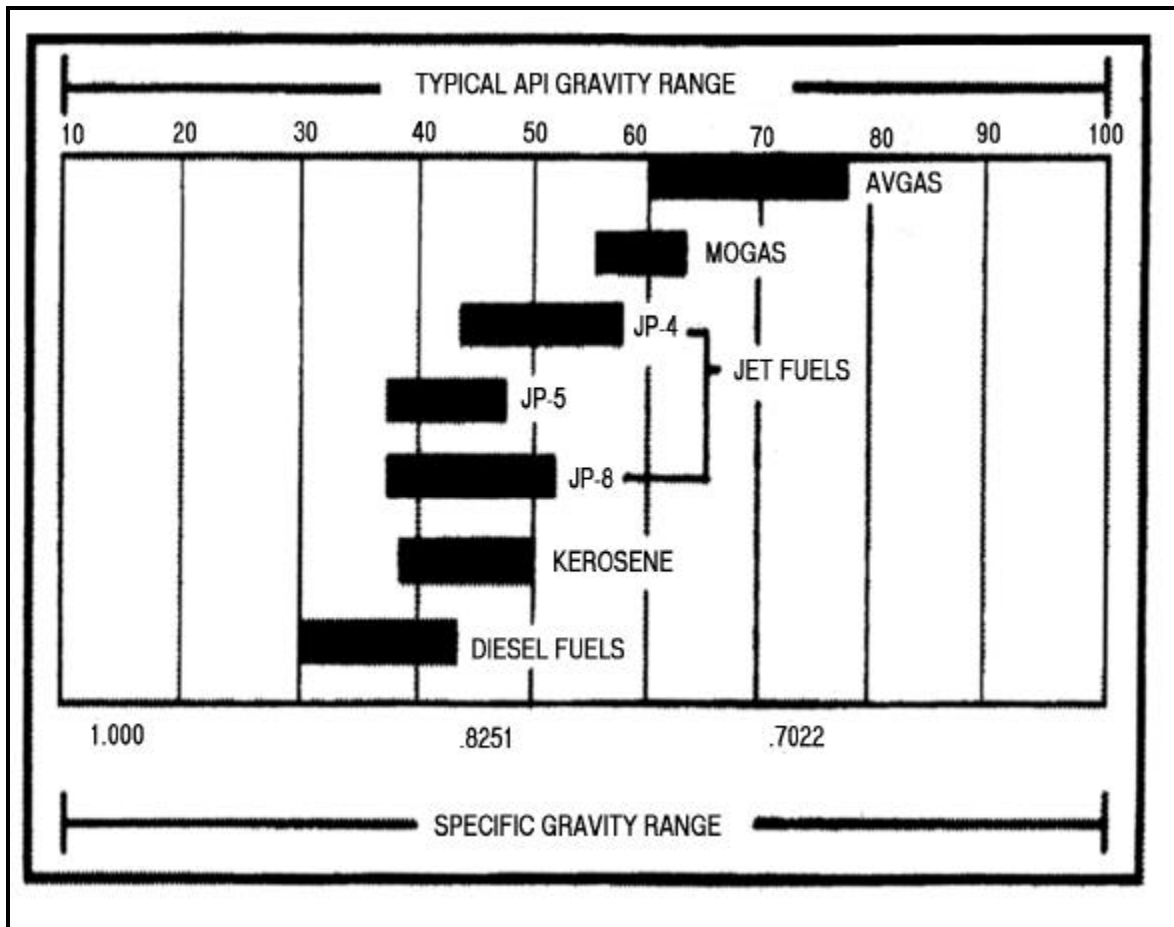

Figure I-1. Typical API gravity ranges (corrected to 60 degrees)
- Step 6. Use the hydrometer with the range closest to the API gravity range of the fuel you think you are testing. See Figure I-1, page I-2. For example, if you think the fuel is diesel and the API gravity range of diesel is between 30.0 and 42.0, use the third or fourth hydrometer from the equipment list.
- Step 1. Compare the corrected API gravity with the API gravity ranges shown in Figure I-1, page I-2. If the corrected API gravity of the product is lower or higher than expected, it indicates possible commingling with either heavier or lighter products.